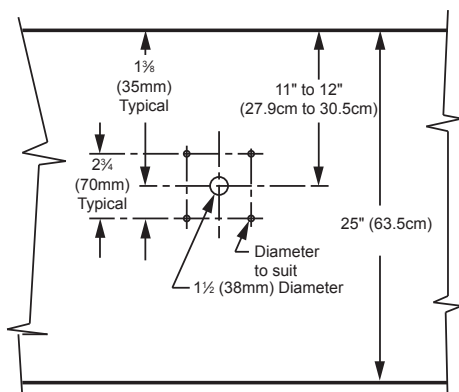

Figure 10
4. If you are installing your keg refrigerator under a counter you will need to drill 5 holes in the counter top to mount the tower. The first hole is a 1¹/₂" diameter hole located at the center of the tower for the beer line, locate approximately 11 to 12 inches from the back wall (based on a standard counter top depth of 25"). Next drill the 4 tower mounting holes per the dimensions in Figure 10. The hole diameter is dependent on the counter top material and if screw anchors are required. The screws supplied are in the literature pack and are a #10 x 1" type AB stainless steel screw. After the holes are drilled and the keg refrigerator is in place under the counter top feed the beer line through the tower gasket,